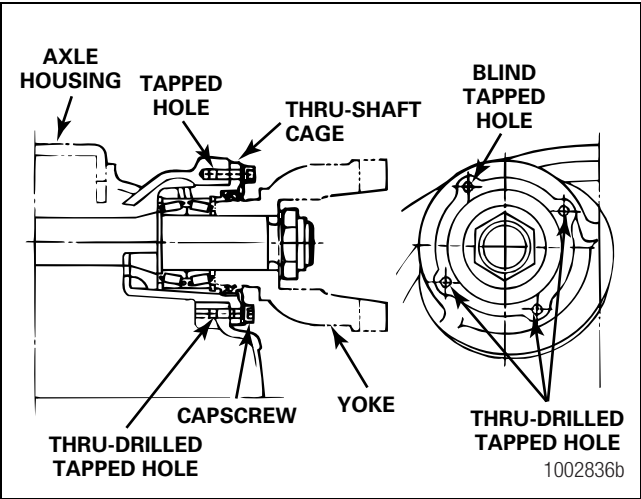

Figure 5.121
- 9. Apply a 0.25-inch (6 mm) length bead of Loctite® 518 sealant in the thru-drilled tapped holes located at the two, five and eight o'clock positions. Figure 5.121.